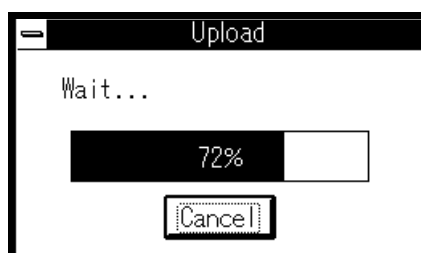

Figure 5-9 Example of dialog box displayed during uploading
- When you click on the **OK** button, PDB38M starts saving memory contents to your specified file (uploading). PDB38M brings up a dialog box like the one shown in Figure 5-9 when it is uploading. This dialog box is automatically closed when PDB38M finishes uploading.
- If the range of memory locations to be saved is large, PDB38M requires a large disk space and a long time. In such a case, you can stop saving memory contents by clicking on the **Cancel** button in the dialog box shown in Figure 5-9. In this case, a file is created for the memory contents immediately before you have stopped saving.